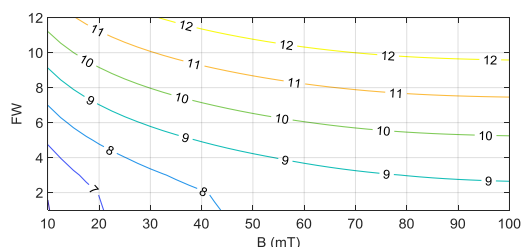

Figure 29: MA782 Resolution
The filter window (FW) determines the effective resolution (defined as the  $\pm 3\sigma$  noise interval). Figure 29 shows the effective resolution for different FWs and the magnetic field (B).